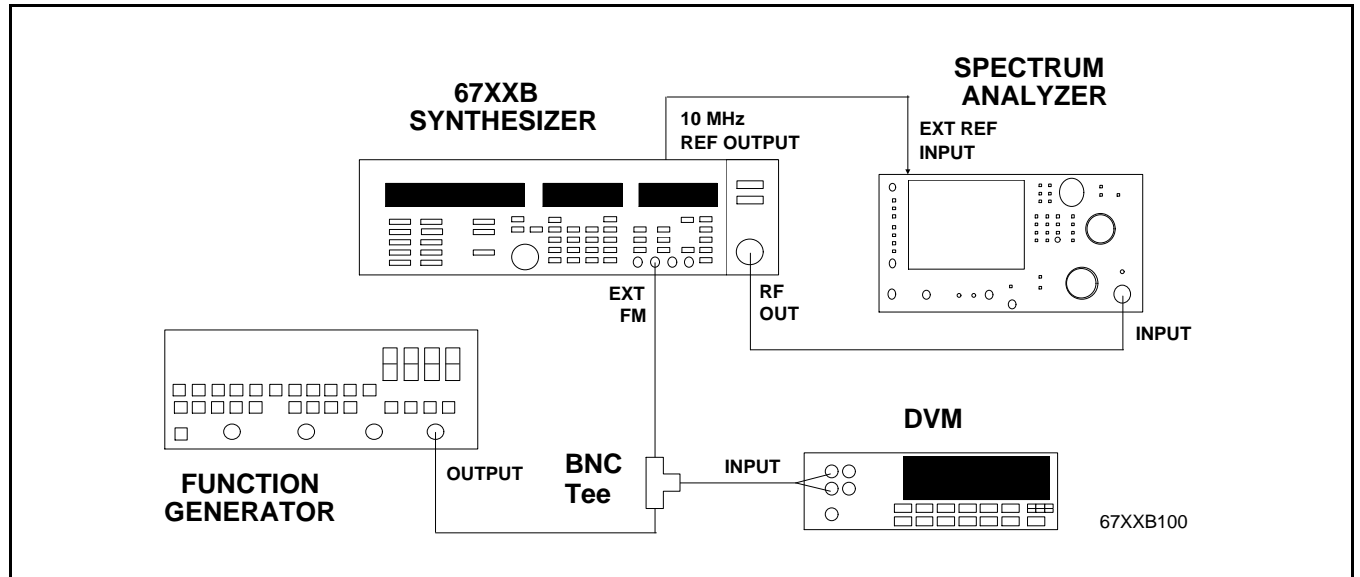

Figure 3-15. Test Equipment Setup for FM Sensitivity Calibration (0.01 to 20 GHz)
1. Connect the equipment, shown in Figure 3-15, as follows: